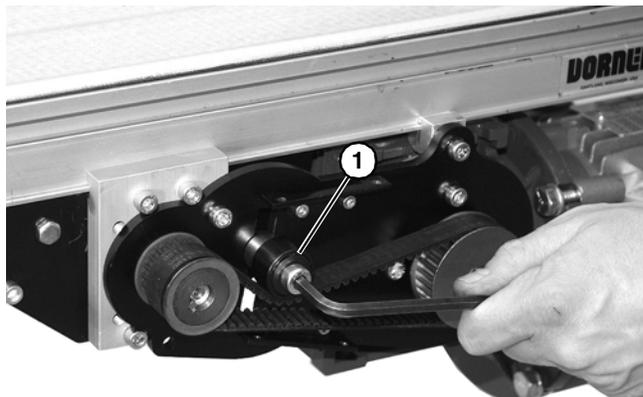

Figure 14
2. Loosen tensioner (Figure 14, item 1).
- Loosen tensioner (Figure 14, item 1).